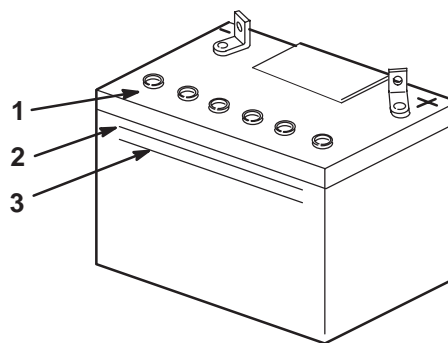

Figure 58
2. Look at the side of the battery. The electrolyte must be up to the **upper** line (Fig. 58). Do not allow the electrolyte to get below the **lower** line (Fig. 58).
3. Remove the vent caps from the battery (Fig. 58).
4. Slowly pour distilled water into each battery cell until the level is up to the **upper** line (Fig. 58) on the battery case.
5. Wait five to ten minutes after filling the battery cells. Add distilled water, if necessary, until the electrolyte level is up to the **upper** line (Fig. 58) on the battery case.